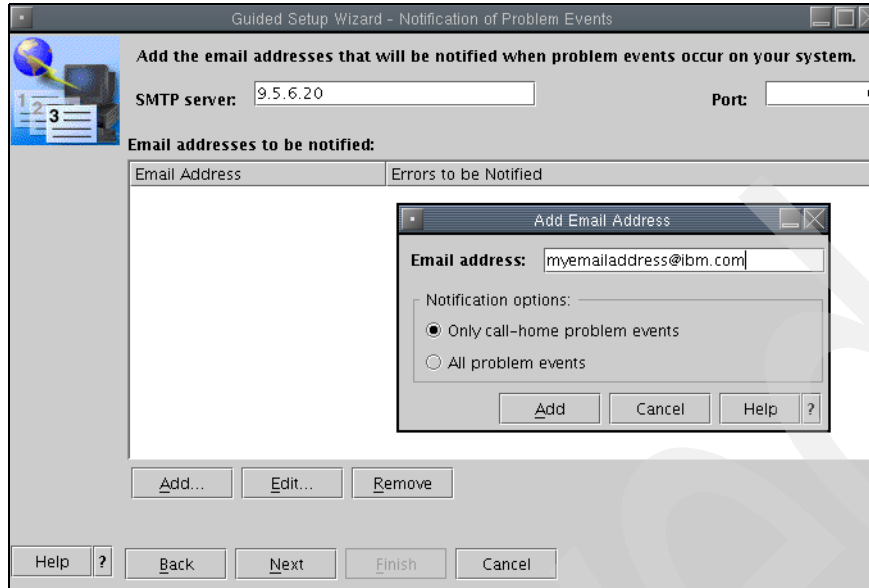

Figure 4-42 Guide Setup Wizard - Notification of Problem Events
39. The Guided Setup Wizard - Notification of Problem Events display is shown (see Figure 4-42). The HMC can alert your administrators of problems with the HMC or its managed systems via e-mail.